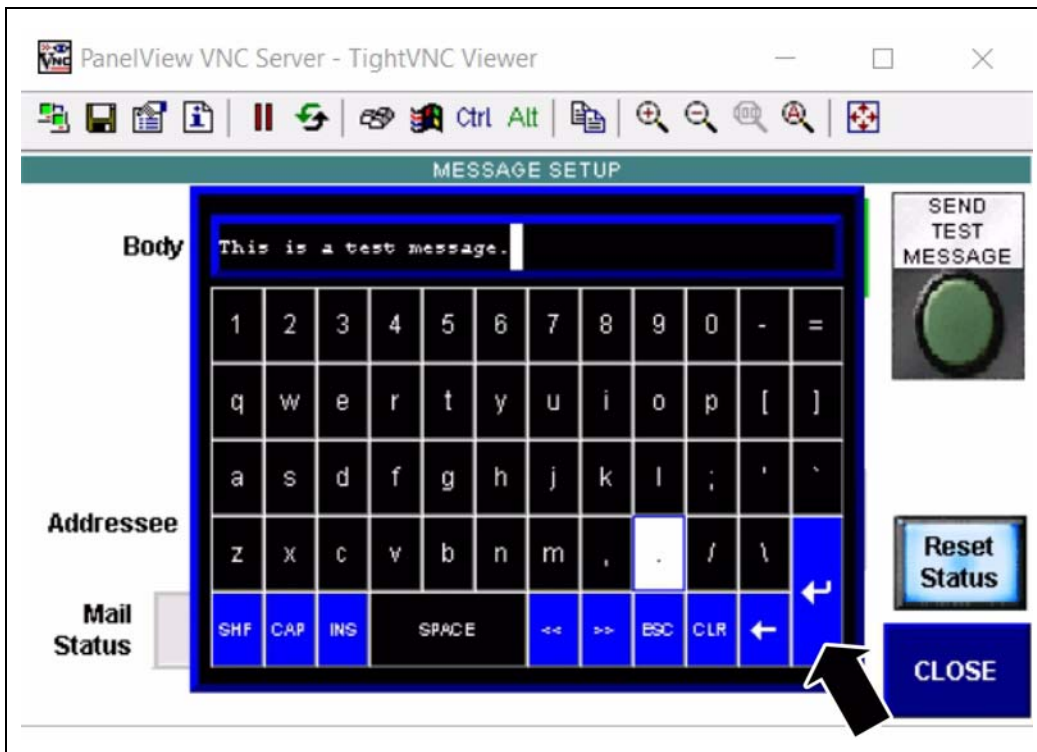

Figure 5D
4. From the Message Setup screen, touch anywhere in the green box to open the keyboard. Then type your test message and press the enter key. (See Figure 5D.)